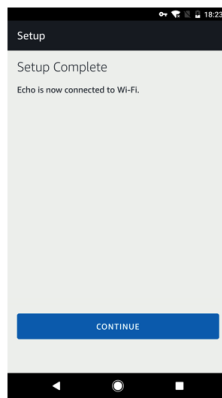
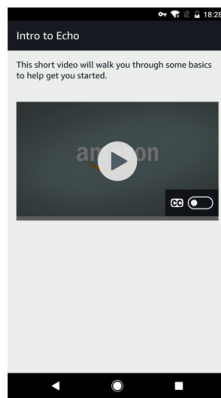

fig.15
fig.16
- Tap “CONTINUE” when Echo is connected to the network (fig.15). After an introduction video, tap “NEXT” to finish the setup (fig.16)